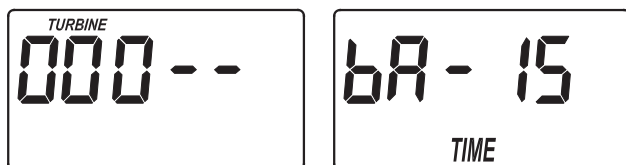

FIG. 21
1. Press and hold for 3 seconds the SELECT button, until the display shows "000 - -", then press the SELECT button again to display the backwash time adjust screen (See Figure 21).